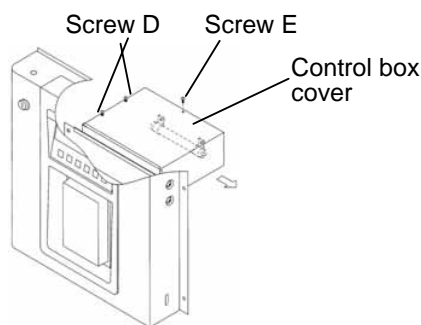

Fig. 3
3) Loosen 2 screws (D) and then remove 1 screw (E) to slide off the control box cover. (Fig. 3)